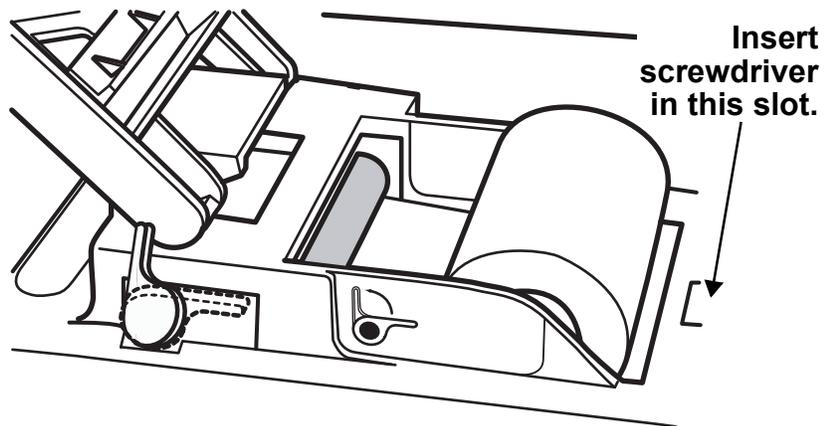

Figure 7-7: Recorder Module Removal
5. Using a long flat-blade screwdriver, insert the blade into the hole where the tab of the paper door was resting (see "Figure 7-7: Recorder Module Removal"). Press the blade firmly between the module housing retaining tab and the cutout in the top cover of the 507ELC2. At the same time, gently lift up on the module housing. The recorder/printer module should dislodge from the top cover at this time. Close the paper door to prevent the roll of paper from escaping.